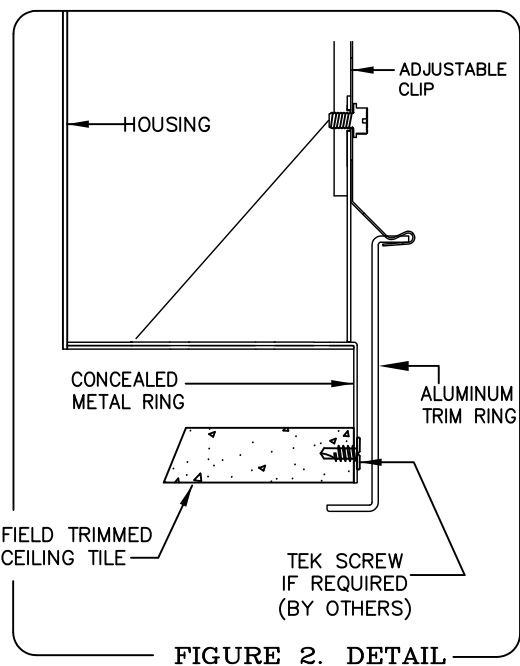

FIGURE 2. DETAIL
2. REMOVE ALUMINUM TRIM RING BY REMOVING 4 SCREWS ATTACHED THROUGH THE ADJUSTABLE CLIP. (SEE FIGURE 2 DETAIL) GENTLY FLEX CLIP BACK AND REMOVE RING. DO NOT DETACH CLIP FROM ALUMINUM RING.
1. CUT HOLE IN CEILING TILE (SEE CHART), TILE SHOULD BE CUT AS CLOSE TO SPECIFIED DIAMETER AS POSSIBLE. FLUSH HEAD TEK SCREWS CAN BE USED TO DRILL THROUGH METAL RING AND INTO CEILING IF REQUIRED. (SEE FIGURE 2 DETAIL). TEK SCREWS BY OTHERS.